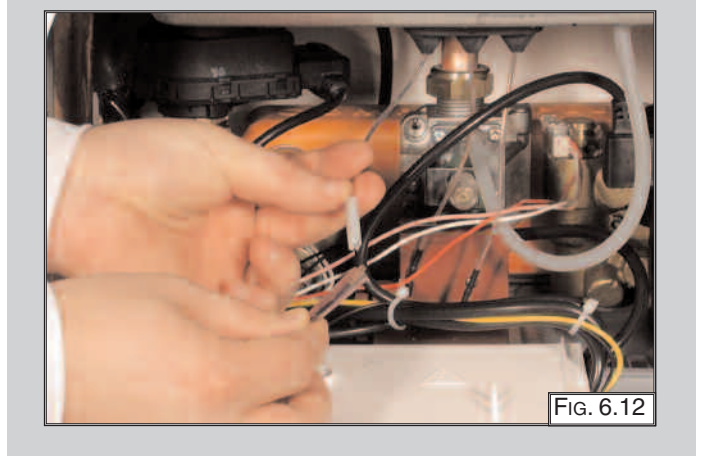

FIG. 6.13
3. Remove screw "H" (FIG. 6.13);